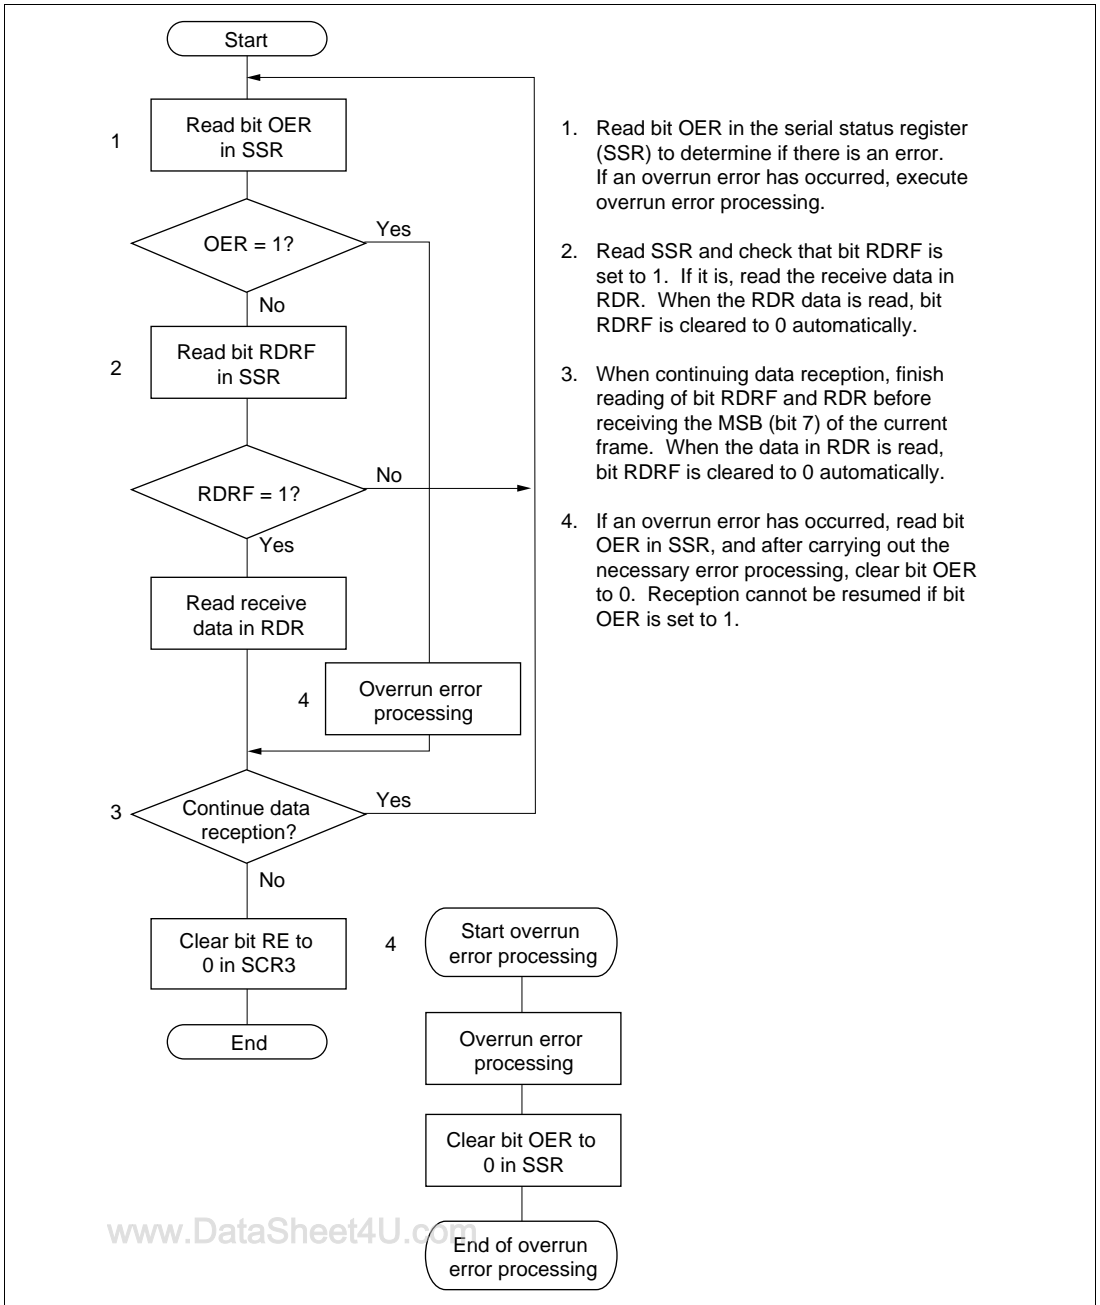

Figure 10.18 Example of Data Reception Flowchart (Synchronous Mode)
Receiving: Figure 10.18 shows an example of a flowchart for data reception. This procedure should be followed for data reception after initializing SCI3.
4. If an overrun error has occurred, read bit OER in SSR, and after carrying out the necessary error processing, clear bit OER to 0. Transmission and reception cannot be resumed if bit OER is set to 1. See figure 10-18 for details on overrun error processing.